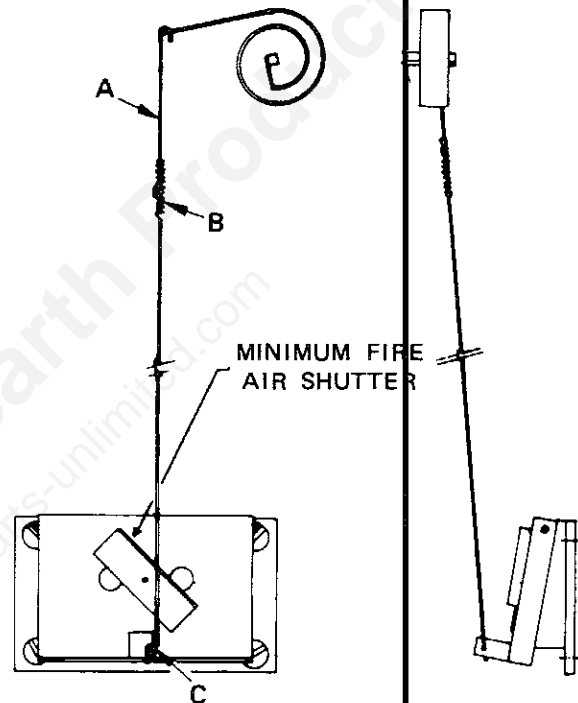

FIG. 15
The rate of burning at the low setting can be further adjusted by opening or closing the minimum fire air shutter (Fig 15) on the draft control door.
A. To increase the amount of heat at a "HIGH" setting, adjust the wire linkage to increase the draft damper opening (Fig. 15).